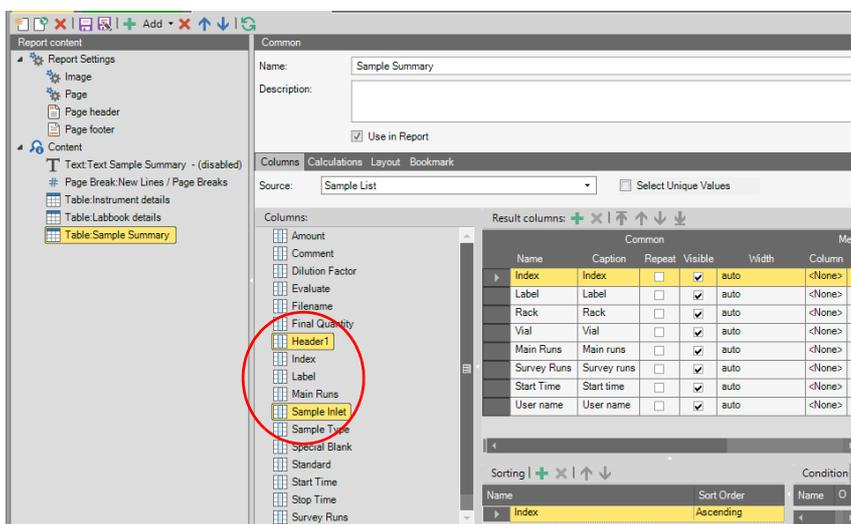

Figure 14-68. LabBook Reports with new columns available
1. As shown for the queries, the new columns are also available in Reports. For example, under Reports, edit the Sample List Summary Report. The new columns are available in the Table: Sample Summary as shown in Figure 14-68. Add the new columns to the Result columns table.